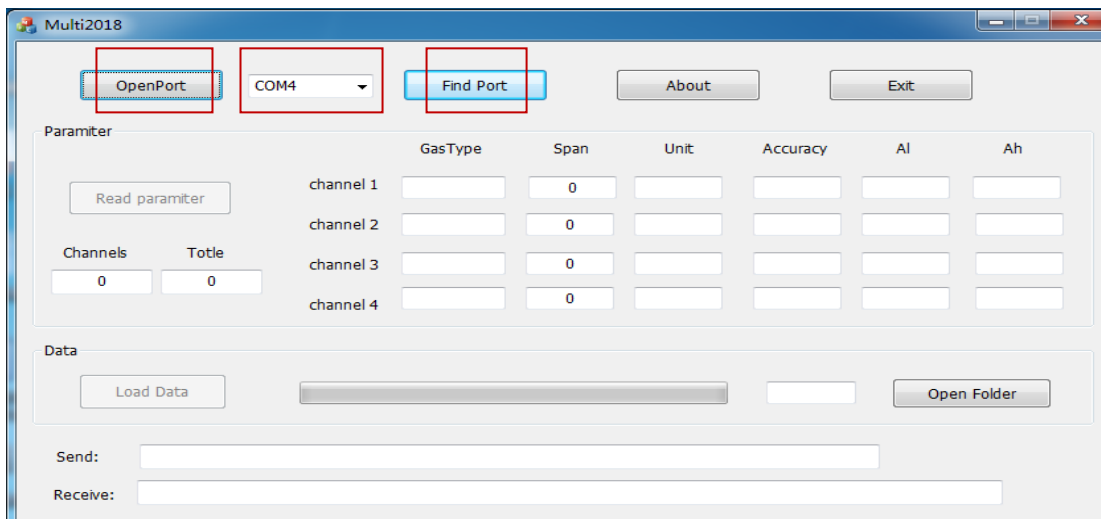

Figure 21
1) Click the program icon to enter the program interface (Figure 21), click on "Find Port", and select "COM4" (drive installed serial port)